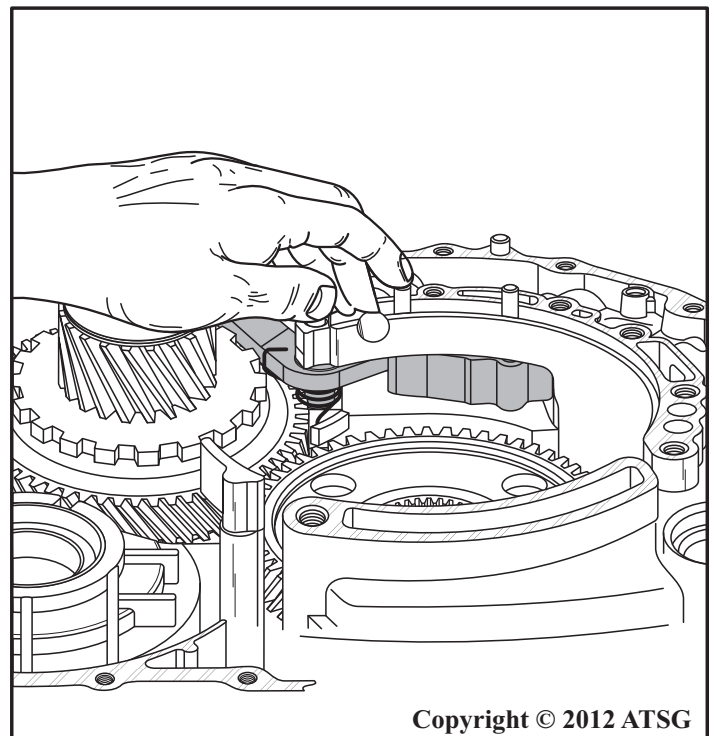

Figure 285
89. Push the retaining pins down until fully seated by **hand only**, as shown in Figure 285.